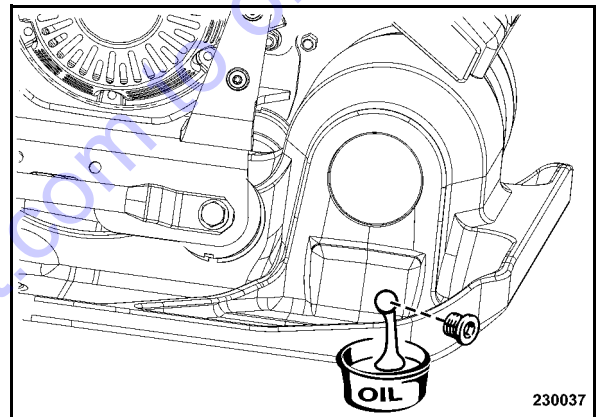

Fig. 64
- Unscrew plug (Fig. 64), catch old oil.